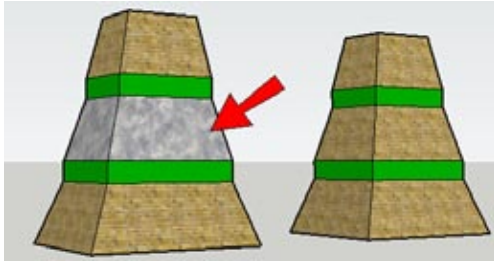

Figure 8-23
5. The Ctrl key (Option key on the Mac) can also be used to paint multiple faces. The difference is that Shift replaces *all* faces of a specific material, and Ctrl/Option replaces all *contiguous* faces of a specific material. To see what this means, pick a new material, press Ctrl/Option, and click the face indicated in Figure 8-23. This paints all faces within the same “stripe.” The faces separated by the green stripes, and the faces on the other building, remain unchanged.